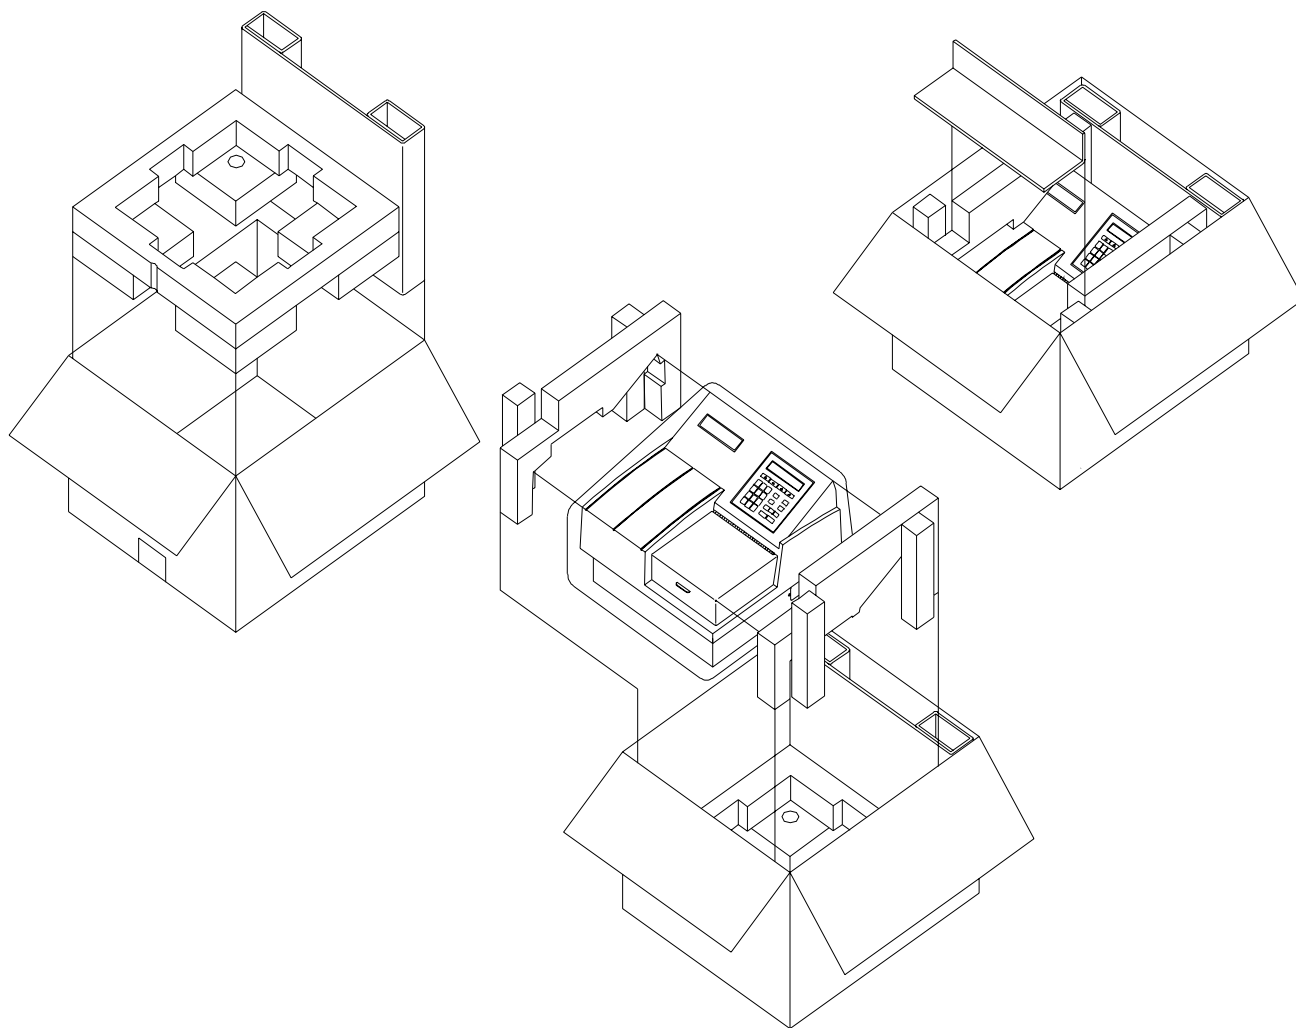

Figure 1: Shipping configuration
1. Using an appropriate size slotted screwdriver, remove the seven slotted screws, which hold the instrument cover to the base ban. Set the screws aside. Grasp the cover from the front of the instrument and flip the cover up. (See Figure 1)
2. For instruments with insulated tracks, cut an area (1.13" x 1.50") of the track insulation foam as shown in Figure 1.